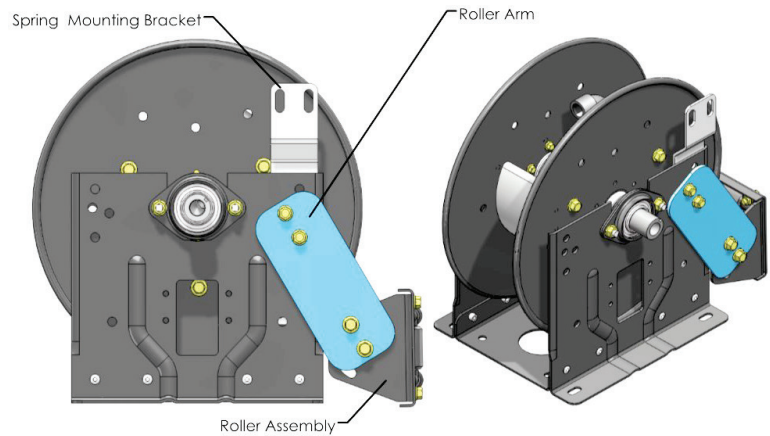

Figure 1 - Reel with Rollers in the “SR” Position
1. Remove spring per Hannay TSB 2013.06.003 Changing a Hannay Spring Motor, this can be found at [www.hannay.com](http://www.hannay.com). The reel should look like Figure 1.